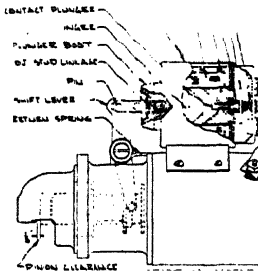

Fig. 6 (Left).—PUSH-BUTTON TYPE OF SOLENOID-SWITCH CONTROL
- (1) Push-button on dash (Fig. 6).
The solenoid switch may be controlled by a push-button (Fig. 6).